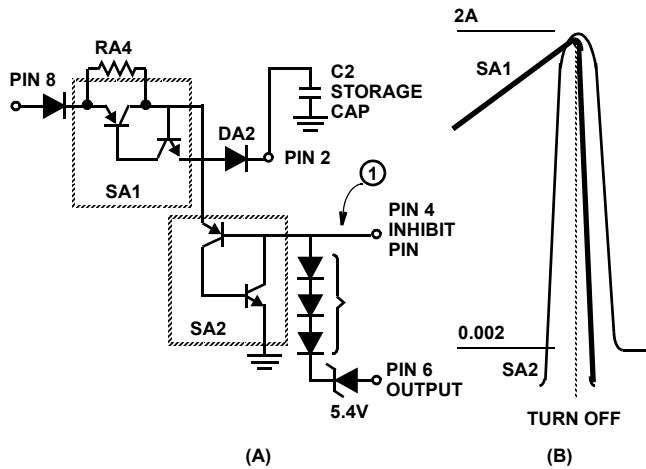

FIGURE 17 (A) (B). SCHEMATIC REPRESENTATION OF SCRs
decreases for C2 voltages below 5V. To understand why the voltage on C2 determines the maximum input current that the HV-2405E can safely turn off, it's important to understand the electrical connection between SA1, SA2 and the storage capacitor C2. Figure 17(A) is a schematic representation of both SCRs and is presented to explain how SA2 turns off SA1.
Assume that SA1 is on and the current path is from pin 8 to pin 2. If a small current is pulled out of the base of SA2's pnp (point 1, Figure 17A) SA2 will turn on. When SA2 turns on the collector current of SA1's pnp no longer provides base drive to its npn and SA1 turns off. Figure 17(B) shows the current relationships for both SCRs.